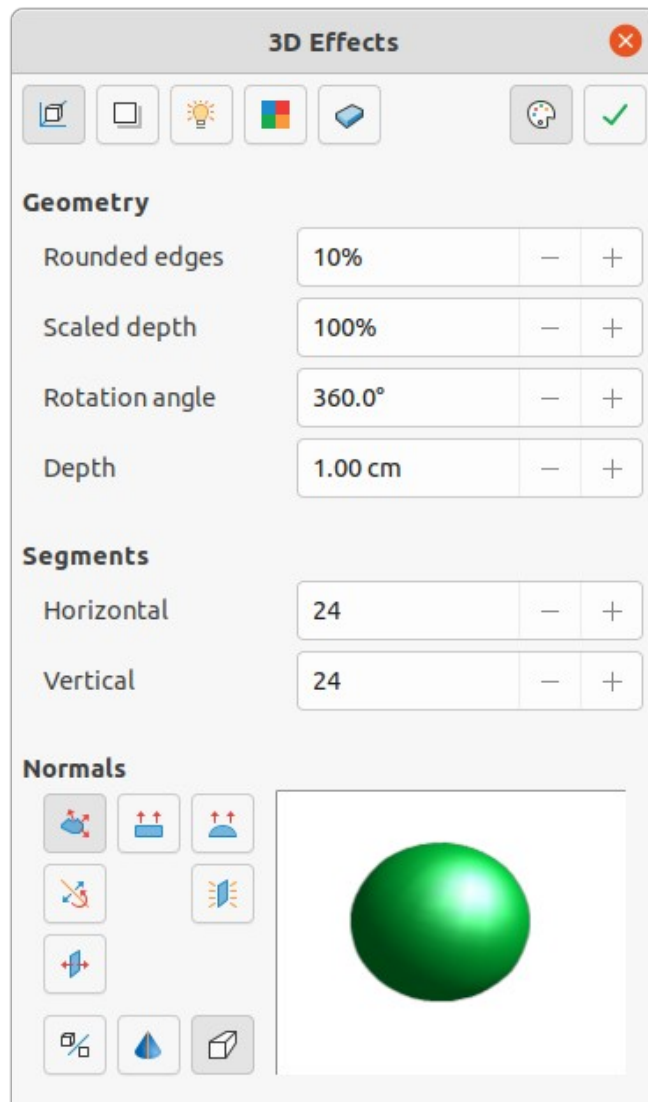

Figure 12: 3D Effects dialog - Geometry page
- Click on **Convert to 3D** in the 3D Effects dialog (Figure 12 on page 11).
The 3D Effects dialog (Figure 12) offers a wide range of possible settings for editing 3D ready made objects or 3D scenes. This dialog can also be used to convert a 2D object to 3D using the tools in the bottom left corner of the dialog. To open the 3D Effects dialog, click on **3D Effects** on the Line and Filling toolbar, or go to **Format > 3D-Effects** on the Menu bar.
Click on **Geometry** in the 3D Effects dialog (Figure 12) to open the Geometry page and use the options available to change the geometry of a 3D object.